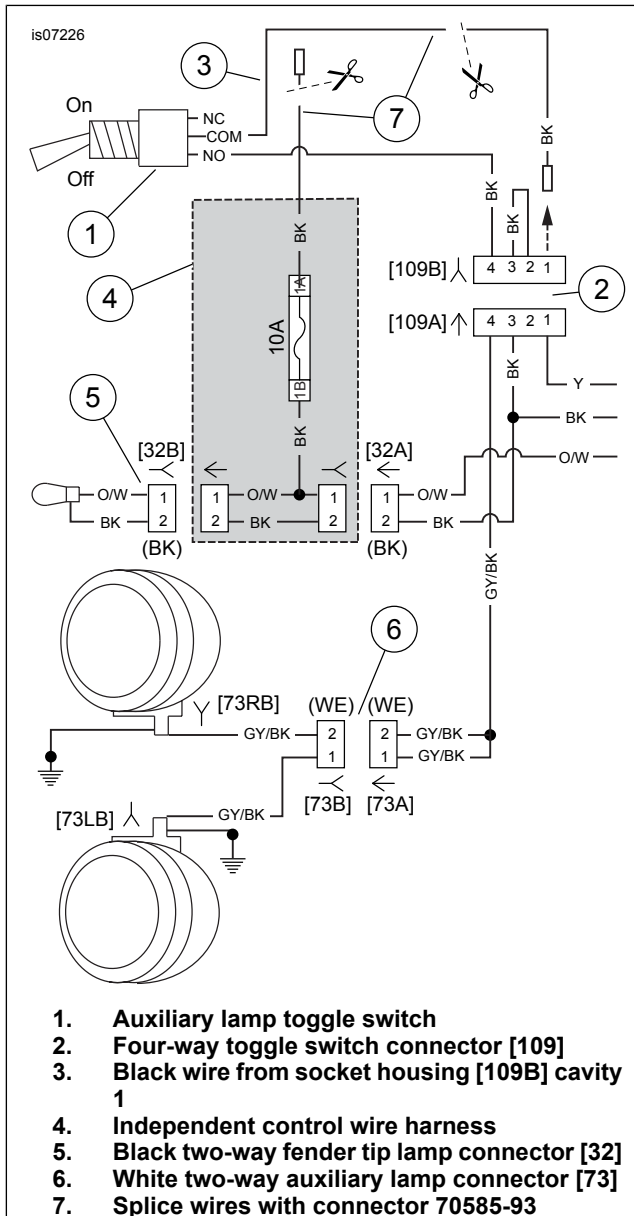

Figure 1. Wiring Diagram, FLHR Installation
- See Figure 1. Remove the hex nut and washer from the front of the auxiliary lamp toggle switch (1) on the back of the headlamp nacelle. Bring the toggle switch out through the headlamp opening, along with the four-way toggle switch connector [109] (2).
- See the service manual appendix to unplug the connector halves. Locate the black wire (3) coming from cavity 1 of socket housing [109B] and trace it to the COMMON terminal of the toggle switch.
- Plug the auxiliary lamp independent control wire harness (4) connectors into the mating fender tip lamp connector halves [32A] and [32B].